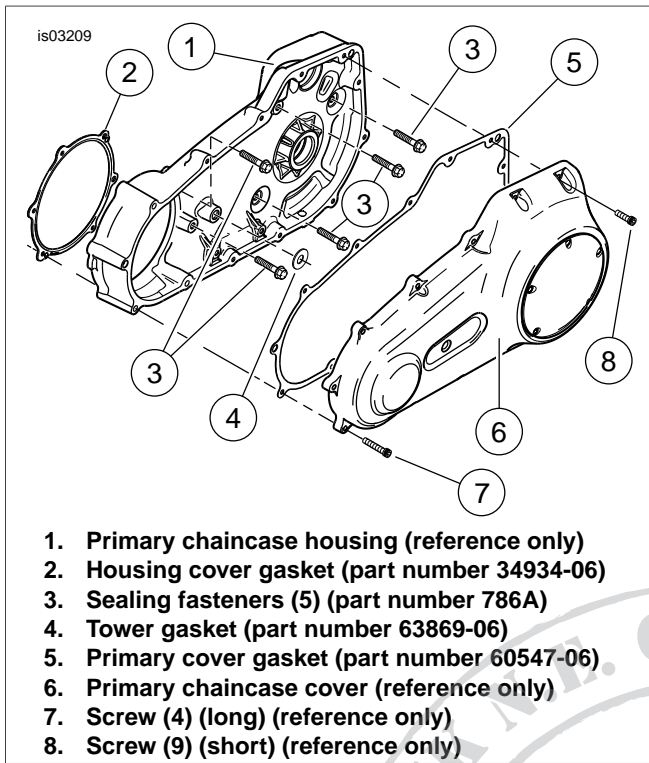
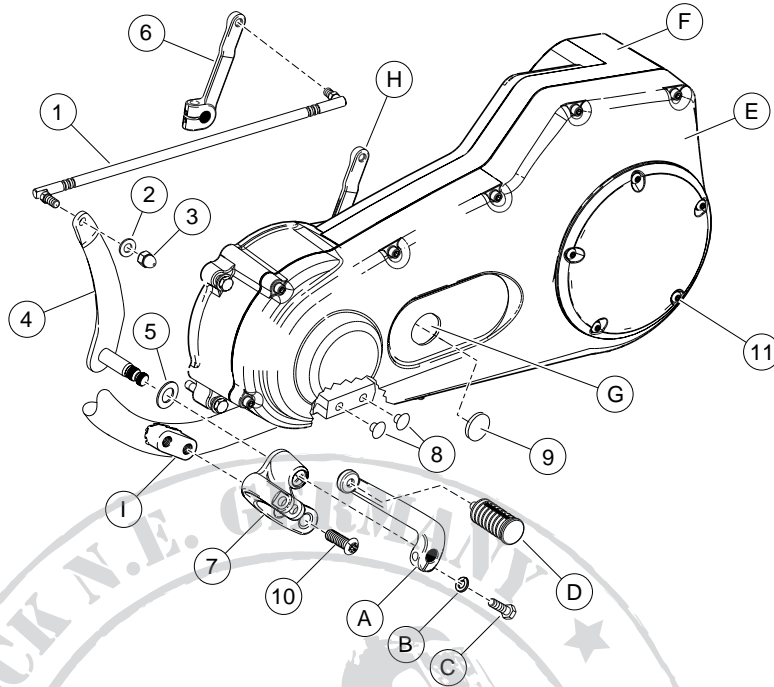
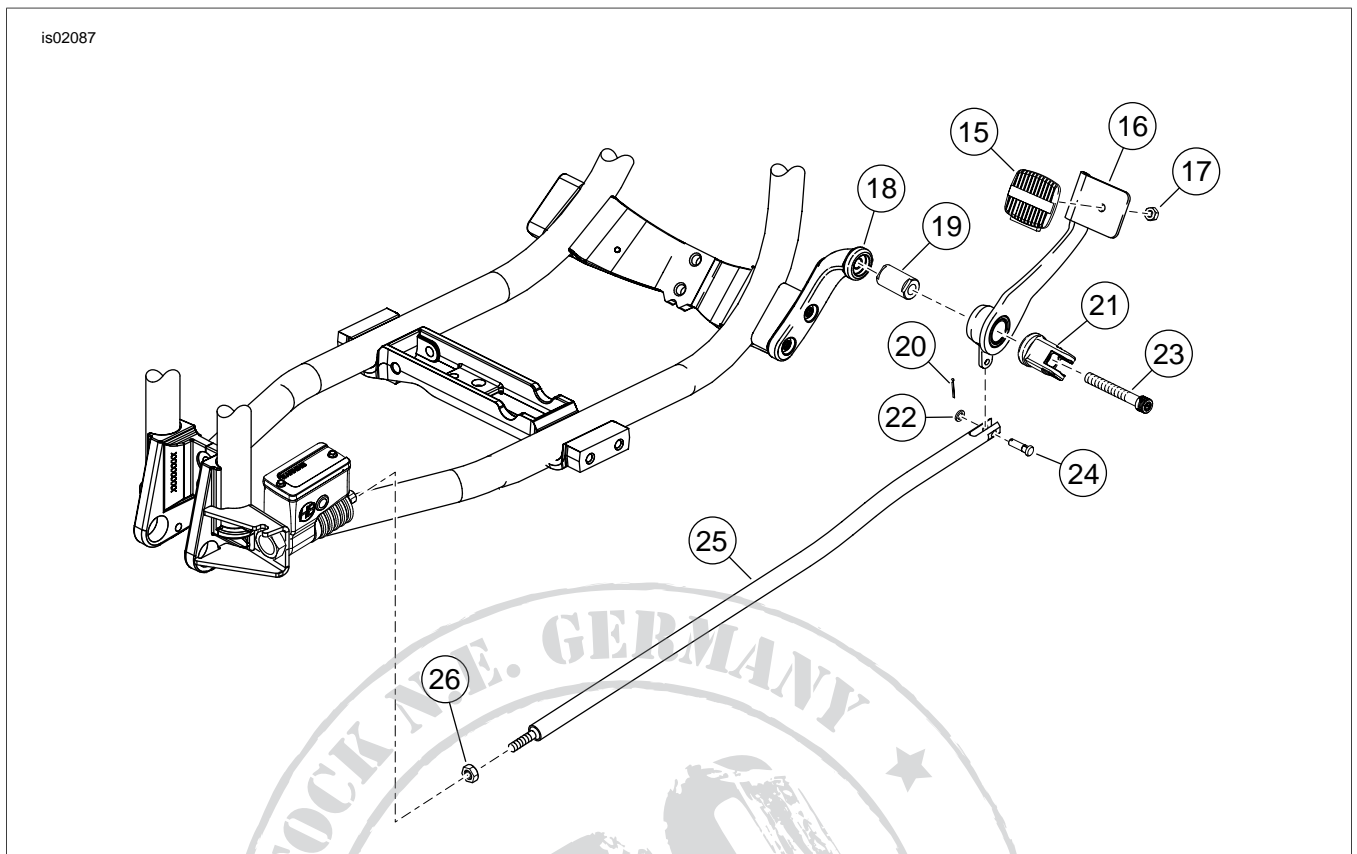

Figure 2. Primary Chaincase Cover and Housing Components
Figure 4. Service Parts: Dyna Forward Foot Control Kit
Figure 5. Service Parts: Dyna Forward Foot Controls Kit
See Figure 4 and Figure 5. The mounting brackets and clevis (7, 18 and 21) may also be purchased separately to upgrade the standard FXDWG to this chrome kit.
See Figure 4 and Table 1 and Figure 5 and Table 2.
2. See Figure 4. Remove the left-side rider footrest assembly. Save the footrest and fasteners for installation. Discard the remaining hardware.
3. From the kit, press hole plugs (8) into the screw holes on the frame where the stock footrest assembly was mounted.
4. Remove plugs from forward control frame mount (I) and discard.
5. Remove the shifter lever (A) and left-hand shifter peg (D). Save for future use.
6. See Figure 2. Remove the primary chaincase cover (6) and primary chaincase housing (1). Refer to your model motorcycles Service Manual for removal procedures.
8. See Figure 4. Install a spring washer (5) on the shifter lever shaft (4). Coat the shaft with Loctite® Anti-Seize and slide the shaft into the shifter bracket (7). Install the shifter bracket onto the frame mounting holes using Torx® screws (10). Tighten the screws to 30-35 ft-lbs (41-47 Nm).
10. Install the **new** shifter rod (1) onto the transmission shifter lever (6) and shifter lever (4). Tighten to 70-90 **in-lbs** (8-10 Nm).
11. See Figure 2. Using the gaskets and O-rings from the kit, install the primary chaincase housing (1) and primary chaincase cover (6). Refer to your model motorcycles Service Manual for installation procedures.
2. See Figure 5. Loosen the brake rod jam nut (26) at the rear brake master cylinder.